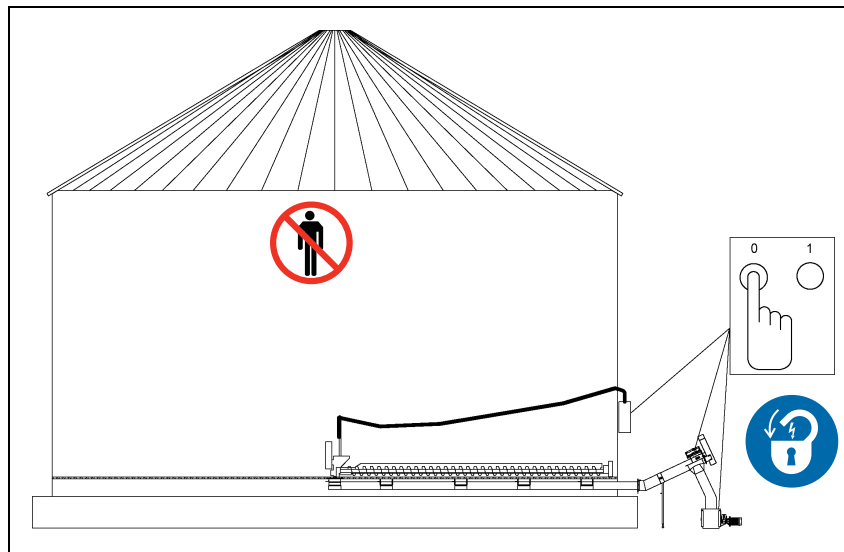

Figure 6L
12. Stop all systems and lock out power. (See Figure 6L.)